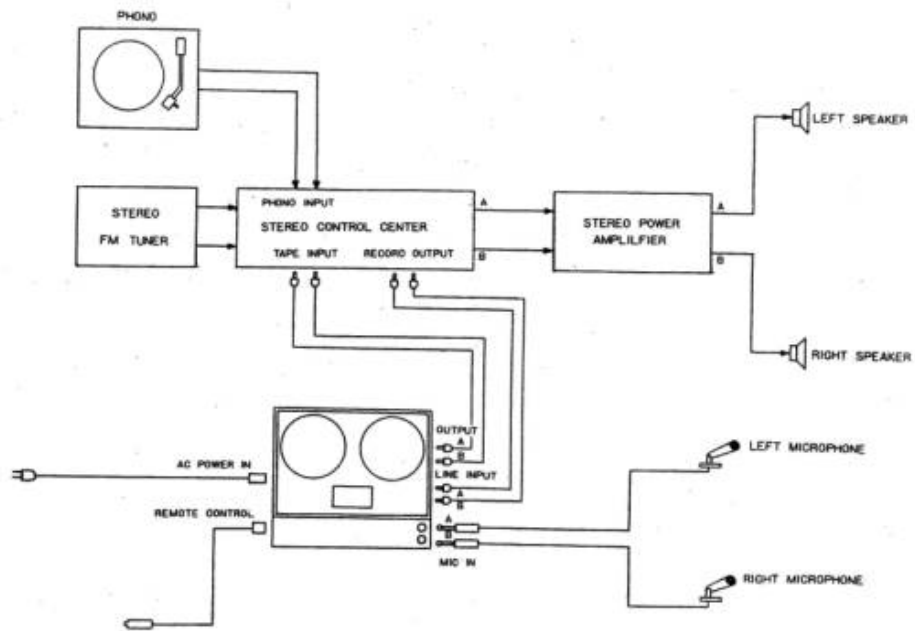
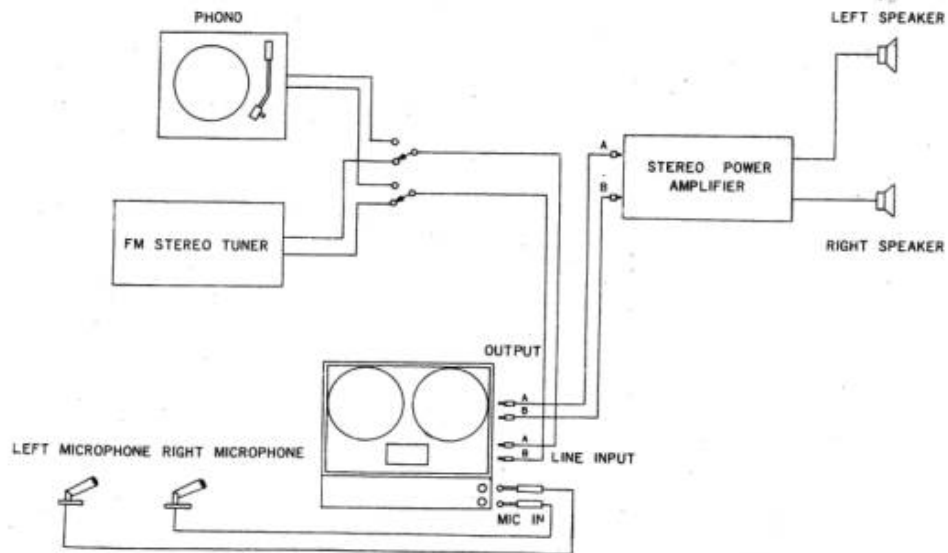

FIG. 2 TYPICAL INTERCONNECTING DIAGRAM
FIG. 3 BASIC SYSTEM
To connect the A-1200 for playback through a high fidelity music system, use figure 2 as a guide. Check carefully against instructions supplied with the power amplifier and other equipment for proper connection.
Figure 3 represents an alternate method of using the A-1200 with other high fidelity equipment. This system takes advantage of the flat frequency response of the TEAC A-1200 deck and does not incorporate any facilities for tone control. The performance of this system will depend on the quality of the accessory high fidelity components.
1. Install the A-1200 into your audio system. Refer to figure 2 (or 3), in regard to connections.
1. Press RECORD SELECTOR (22) STEREO (both A and B) buttons.
4. Switch MONITOR selector (24) to SOURCE.
5. Adjust LINE INPUT level controls (28) while watching the VU meter (26). The VU meter should deflect to the 0 VU position on the loudest portions of the program material. Do not allow the meter to deflect past that point, as distortion in recording will result.
6. Advance OUTPUT level control knobs (27) until program is comfortably heard in the reproducing system. (See Fig. 2 or Fig. 3)
7. Press REC button, then press PLAY button (17) while holding REC button.
9. Set MONITOR selector (24) to TAPE for monitoring recorded program while recording.